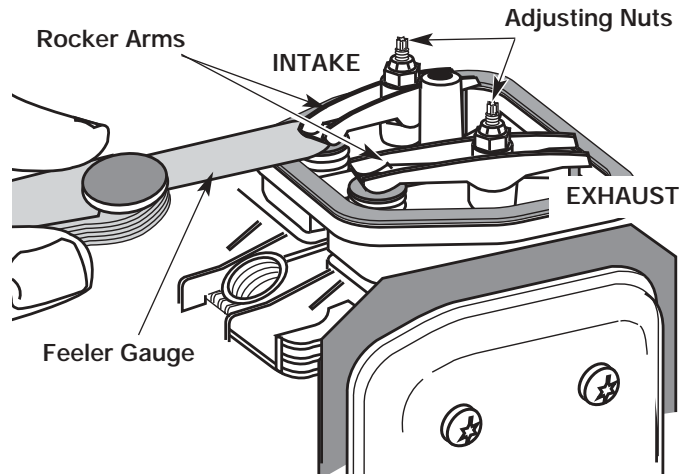
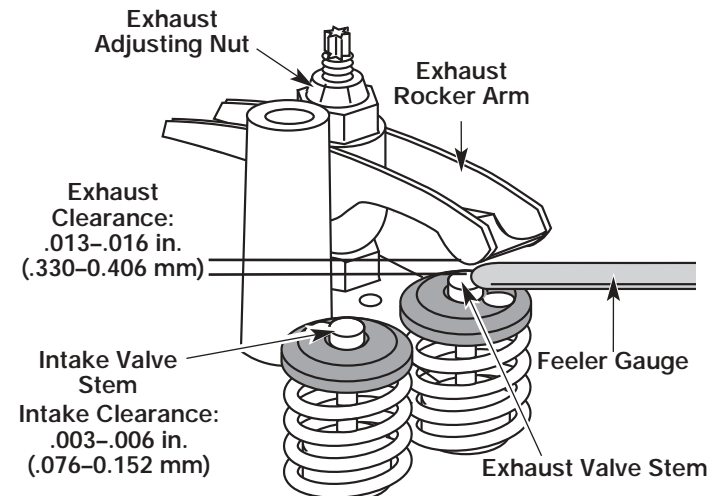

Fig. 27
Fig. 28
8. Slide the feeler gauge between the rocker arm and the valve return spring. Measure the clearance between the valve stem and rocker arm (Fig. 27 & 28). Measure both the intake and exhaust valves.
Use a standard automotive feeler gauge at .005 and .015 in. (0.127 and 0.381 mm). The feeler gauge should slide between the rocker arm and valve stem with a slight amount of resistance, without binding. Figure 27 shows how to measure the intake clearance, while Figure 28 shows the exhaust clearance.
- a. Turn the adjusting nut using a 5/16 inch (8 mm) wrench or nut driver (Fig. 28).